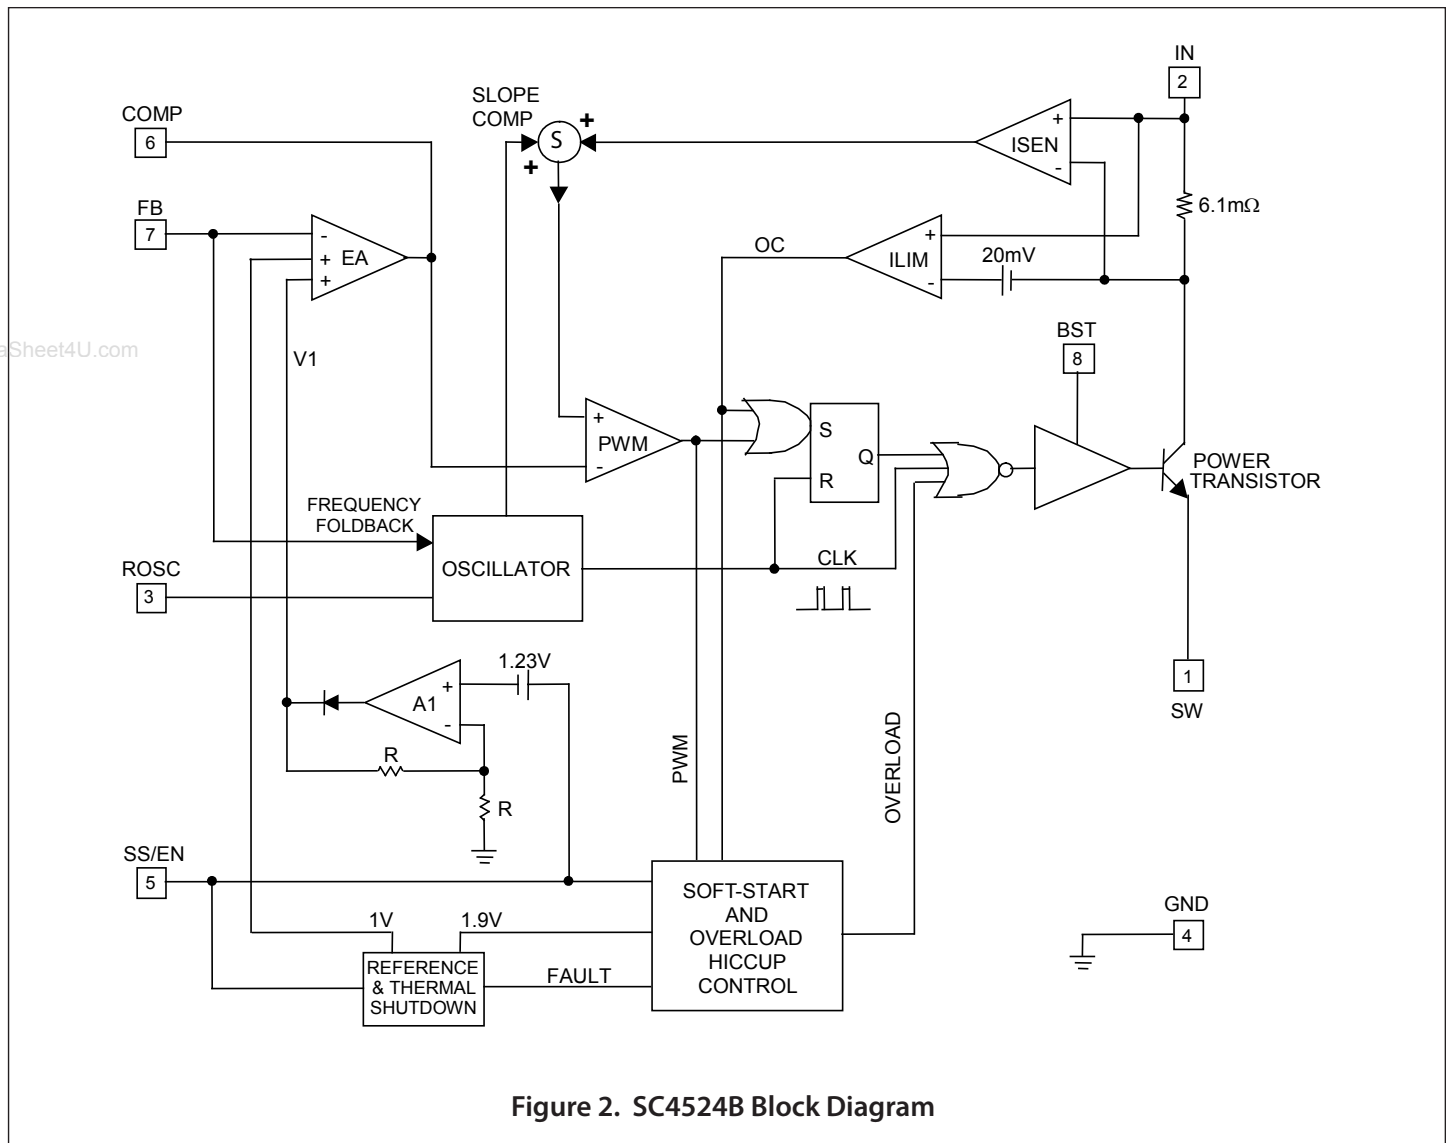

Figure 2. SC4524B Block Diagram
As shown in Figure 2, the switch collector current is sensed with an integrated 6.1mΩ sense resistor. The sensed current is summed with a slope-compensating ramp before it is compared with the transconductance error amplifier (EA) output. The PWM comparator trip point determines the switch turn-on pulse width. The current-limit comparator ILIM turns off the power switch when the sensed signal exceeds the 20mV current-limit threshold.
The error amplifier EA in Figure 2 has two non-inverting inputs. The non-inverting input with the lower voltage predominates. One of the non-inverting inputs is biased to a precision 1V reference and the other non-inverting input is tied to the output of the amplifier A₁. Amplifier A₁ produces an output V₁ = 2(V_{SS/EN} - 1.23V). V₁ is zero and COMP is forced low when V_{SS/EN} is below 1.23V. During start up, the effective non-inverting input of EA stays at zero until the soft-start capacitor is charged above 1.23V. Once V_{SS/EN} exceeds 1.23V, COMP is released. The regulator starts to switch when V_{COMP} rises above 0.4V. If the soft-start interval is made sufficiently long, then the FB voltage (hence the output voltage) will track V₁ during start up. V_{SS/EN} must be at least 1.83V for the output to achieve regulation. Proper soft-start prevents output overshoot. Current drawn from the input supply is also well controlled.
As the load draws more current from the regulator, the current-limit comparator ILIM (Figure 2) will eventually limit the switch current on a cycle-by-cycle basis. The over-current signal OC goes high, setting the latch B₃. The soft-start capacitor is discharged with (I_D - I_C) (Figure 3). If the inductor current falls below the current limit and the PWM comparator instead turns off the switch, then latch B₃ will be reset and I_C will recharge the soft-start capacitor. If over-current condition persists or OC becomes asserted more often than PWM over a period of time, then the soft-start capacitor will be discharged below 1.9V. At this juncture, comparator B₄ sets the overload latch B₂. The soft-start capacitor will be continuously discharged with (I_D - I_C). The COMP pin is immediately pulled to ground. The switching regulator is shut off until the soft-start capacitor is discharged below 1.0V. At this moment, the overload latch is reset. The soft-start capacitor is recharged and the converter again undergoes soft-start. The regulator will go through soft-start, overload shutdown and restart until it is no longer overloaded.
The PWM latch in Figure 2 is reset every cycle by the clock. The clock also turns off the power transistor to refresh the bootstrap capacitor. This minimum off time limits the attainable duty cycle of the regulator at a given switching frequency. The measured minimum off time is 100ns typically. If the required duty cycle is higher than the attainable maximum, then the output voltage will not be able to reach its set value in continuous-conduction mode.